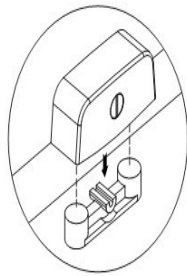

Figure 4
**2. Installing the Side Panels (Figure 2):** Insert right and left side panels (B) into the grooves of the face frame (A) and align the cam lock connectors (Figure 2). Lock the cam with a screwdriver by turning the screw 180° degrees clockwise (Figure 4).